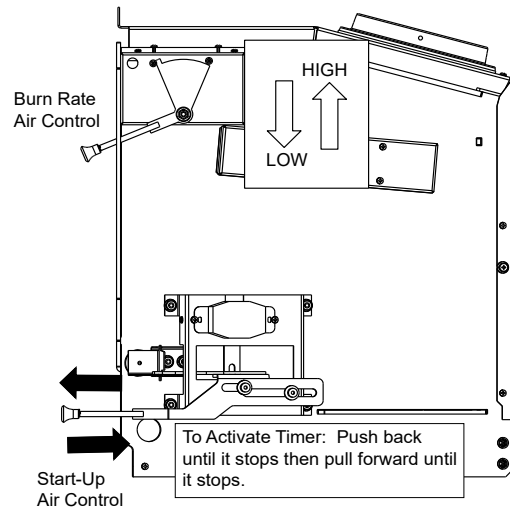

Figure 12.2 - Activating Timer
2. Follow these burn rate instructions below (Figure 12.2).